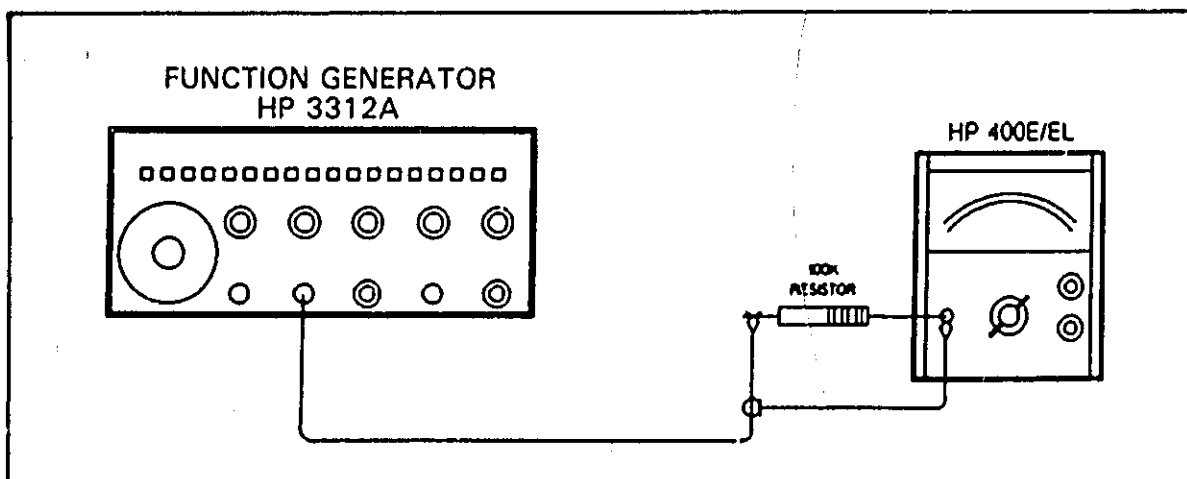

Figure 5-3. Input Impedance Checks.
- c. Connect a 100k Ω resistor between the function generator output and the HP 400E/EL input, as shown in Figure 5-3.
- b. Connect a 100k Ω resistor between the function generator output and the HP 400E/EL input, as shown in Figure 5-3. Insert the resistor directly into the connector on the HP 400E/EL. Connect the ground lead to the outer shield of the HP 400E/EL connector. Do not use an adapter to connect the resistor to the HP 400E/EL. An adapter adds extra capacitance to the instrument's input.